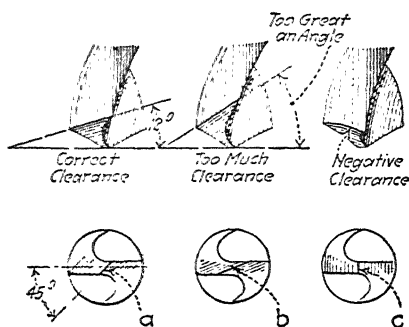

FIG. 127.
**139. Sharpening a Drill.**—The clearance angle on a drill is about 12 deg. at the cutting edge (see Fig. 127). If correctly
sharpened, the angle of the edge across the web of the drill (the "dead center" of the drill) will be about 45 deg. with the line of the cutting edges (see *a*, Fig. 127). The appearance
When the lip breaks off the feed is too heavy, or the drill has been given too much clearance as shown in *b*, Fig. 127.